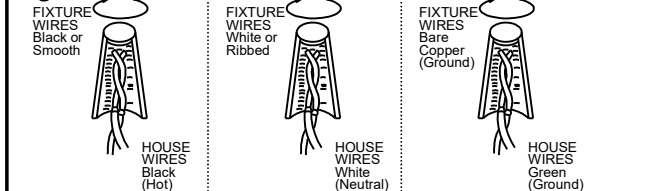

Fig. 4
9. Slide the canopy (D) over the screws (A), and secure with knurled knobs (E).
10. **Dual options: Screw the acrylic rods (J) into the fixture body (Fig 1) or push end caps (N) into the fixture body (Fig 4).**
11. Install (8) eight G9 bulbs (L) (included) up to 60 watts each, or CFL or LED equivalent, in accordance with the fixture specification — **DO NOT EXCEED THE MAXIMUM WATTAGE RATING! (NE PAS DEPASSER LA PUISSANCE NOMINALE MAXIMALE!).**
12. Slide the glass shade (M) over the socket and bulb, then twist to secure it to the socket cup (K).